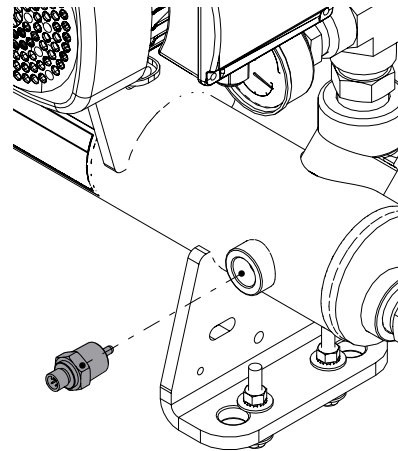

Figure 14. Control RTD shown removed from CMM/CLM heating tank.
3. Unscrew RTD plug. Remove plug. Unscrew RTD from tank. See *Figure 14*.